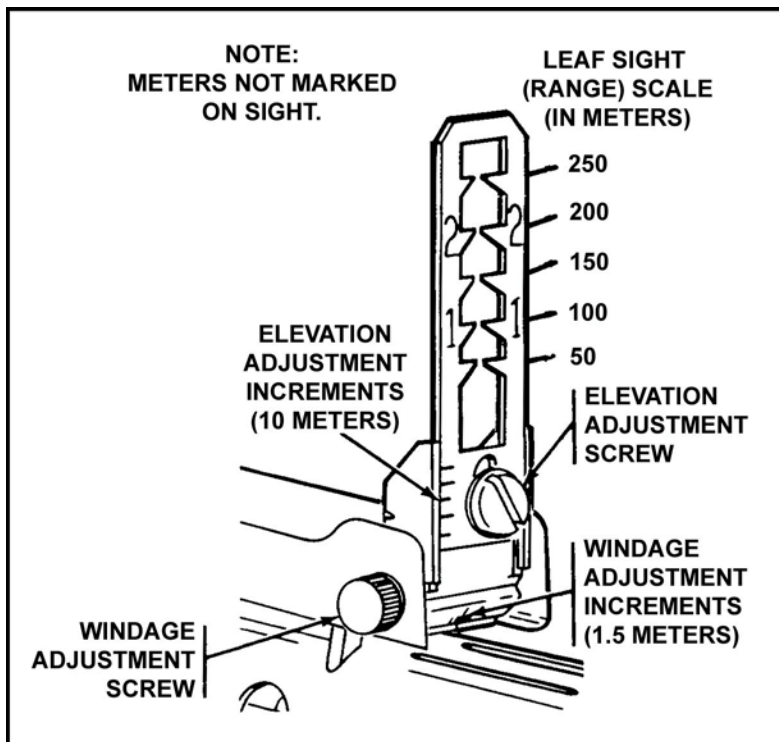

Figure 4. Leaf sight.
9. Adjust the leaf sight if necessary (Figure 4).